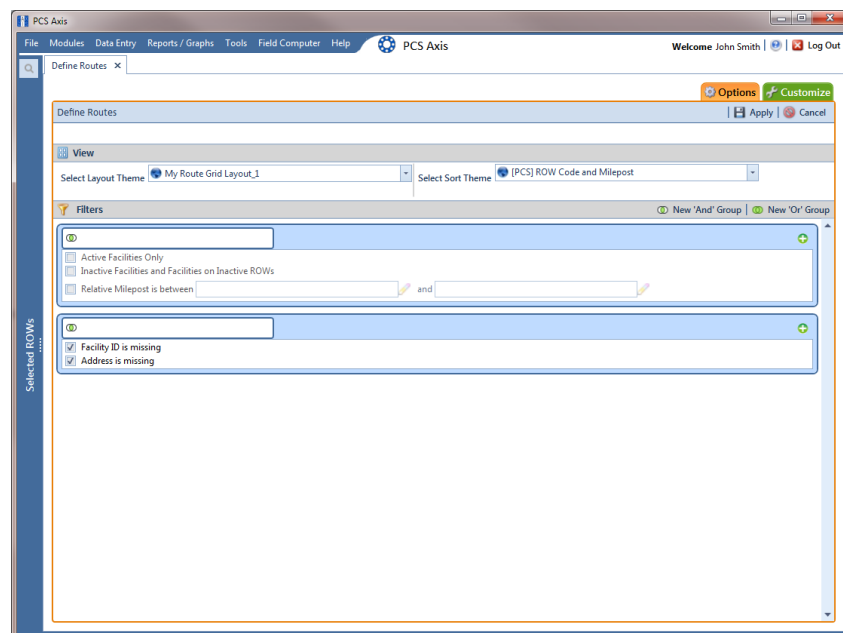

Figure 8-66. Options
- 12** To apply one or more filters to the selected route and the *Define Routes* grid (Figure 8-66):